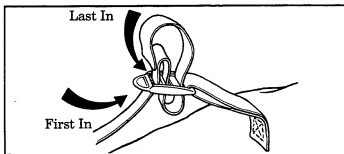

Figure 7
1. Carefully loop the strap through the buckle as shown in Figure 7. Notice the *first in* and *last in* pass through the same hole.